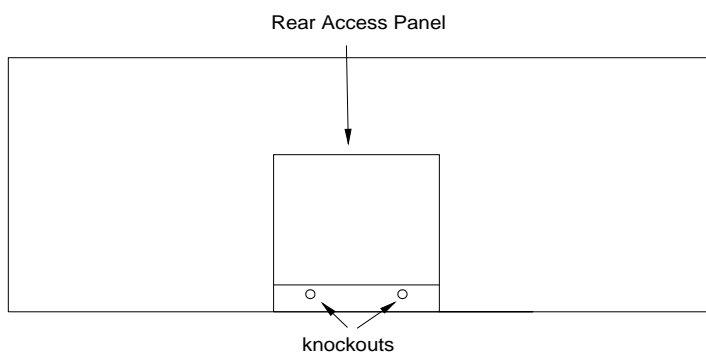

Figure 5 Upper Section Rear Access Panel
1. Remove the hex head screws which hold the upper section rear access panel in place (Figure 5).